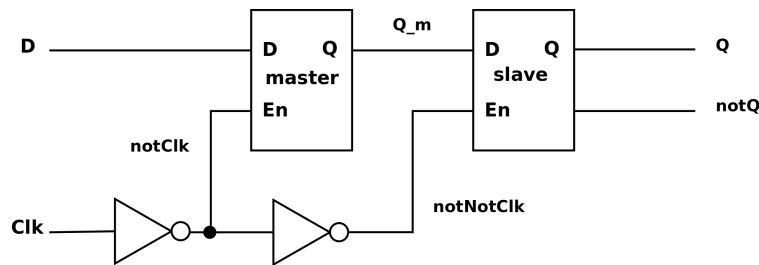

Figure 6: Master-Slave D flip-flop
To construct a D flip-flop, we can actually combine two D-latches with two inverters in what is often referred to as a *master-slave* configuration illustrated in Figure 6. Remember that a rising-edge sensitive D flip-flop essentially samples the input,  $D$ , at the rising-edge of  $Clk$ . Let us convince ourselves that the circuit in Figure 6 does exactly that. When  $Clk$  is low, the master latch is enabled while the slave latch is disabled. Thus, the output of the master latch,  $Q_m$ , equals the input,  $D$ , whereas the output of the slave latch,  $Q_s$ , is equal to whatever value was last store in that latch. For this example, let us assume  $D = '1'$ , and the value latched into the slave latch is 'X'. At some point, the  $Clk$  will transition from low to high. This event is referred to as a rising-edge. When this happens, the master latch will now become disabled, which means it will hold the value of  $D$  immediately before the transition (i.e. '1' will be latched into the master latch). Conversely, the slave latch will become enabled and therefore transparent (i.e.  $Q_s = Q_m = '1'$ ). When the clock returns to a low state, the slave latch will simply hold the previous value of  $Q_m$  which is '1'. In the experiments below, you will have the opportunity to simulate this behavior to help you further understand how the master-slave D flip-flop works.
3. With the D-latch module you just created, construct a D flip-flop as shown in Figure 6.